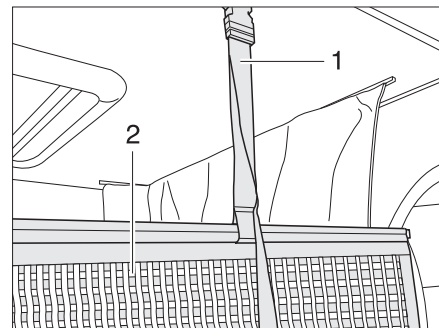

Fig. 167 Safety net holder
The safety net (Fig. 167,2) with the retaining straps is stowed under the mattress. Only use the safety net if persons are already in the pull-down bed.
- Fasten the retaining straps (Fig. 167,1) to the holders on the ceiling.